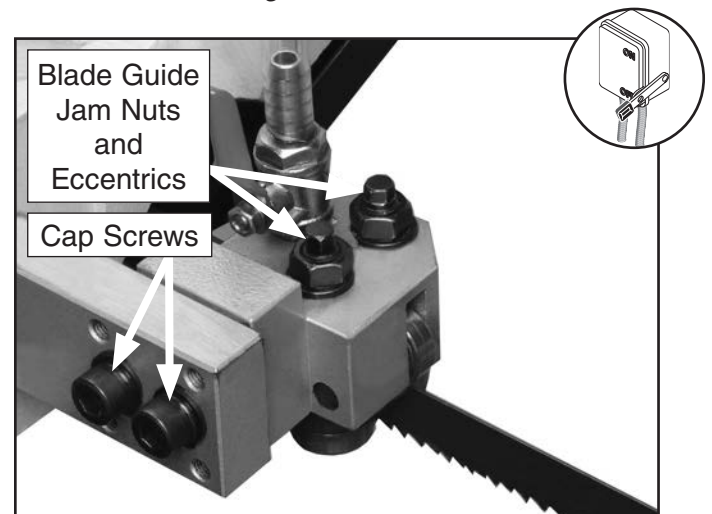

Figure 42. Blade guide adjustment locations.
5. Loosen the cap screws (**Figure 42**), and adjust the blade guide housing so the back of the blade slightly touches the bearing and the guide housing is not tilted.
7. Loosen the 14mm jam nuts and rotate the 7mm hex on top of the bearing eccentrics (**Figure 42**), and adjust the bearings against the side of the blade.